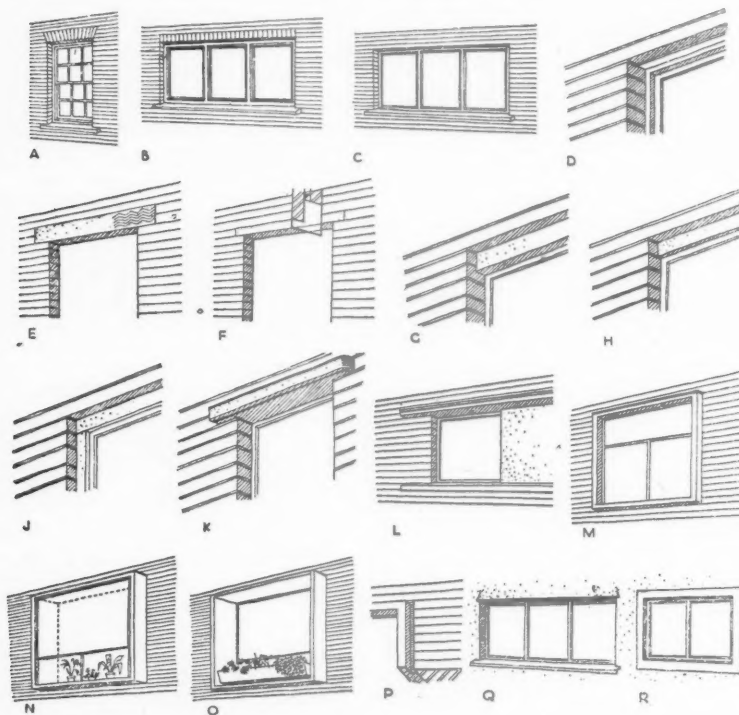

Figure 1.
is projected in front of the wall space to give the effect of a little hood over the window, Fig. 1 (K). This introduces a new aesthetic problem, that of weathering. It is necessary that the top edge of projecting surfaces should be flashed to prevent soot and rain forming a streaky profile. One of the greatest disservices architects have done to the modern movement is to be careless about the effect of the weather.